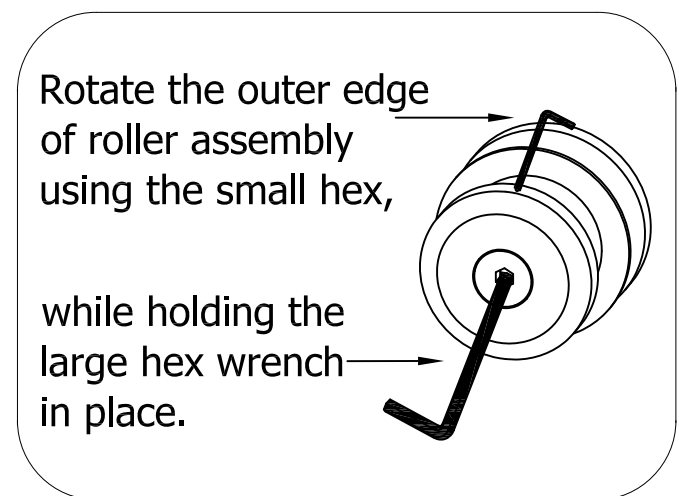

Fig. 21
See Fig.21 for details.
17. Position the Sliding Door Track Divider (8) into position as seen in Fig.21 and mark the 2 shower base hole positions.
Note: In Fig.21 the hole locations for attaching sliding door track divider should be $1 \frac{13}{16}$ " from edge of Large Fixed Glass (3).